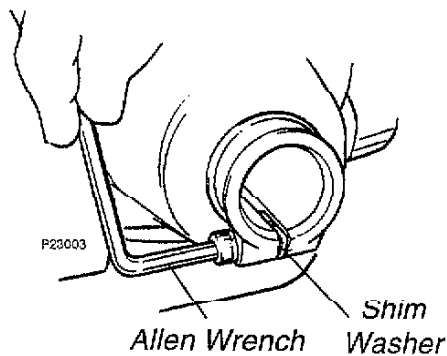

Figure 4
2. Use the 4mm allen wrench to loosen the tube clamp. Make sure the D-shaped shim washer is positioned as shown in Figure 4.